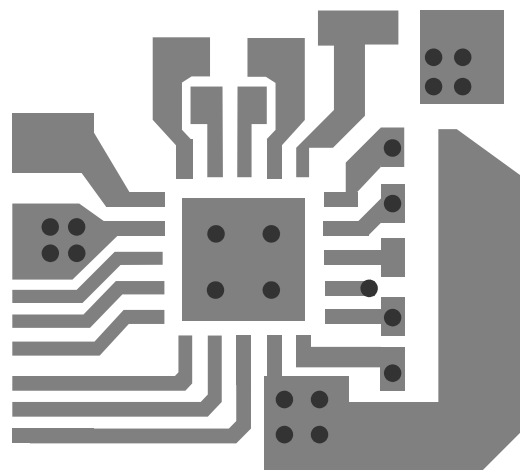
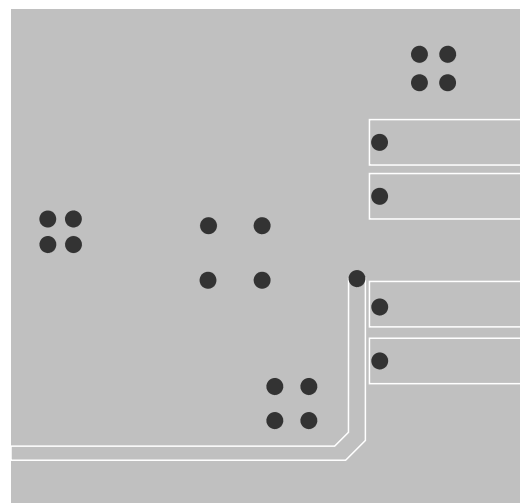

Figure 3 — Layer 1
Figure 4 — Layer 2
- Figure 3 shows the pads that should be connected to the ground plane with multiple vias. Make all ground connections to a solid ground plane as shown in Figure 4.